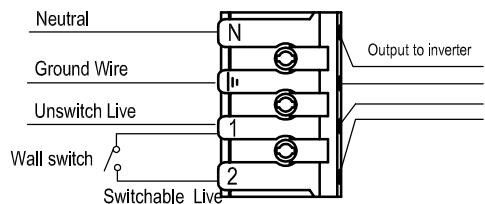

Fig 4
6. Make correct wiring connector(see Fig 4).
Photosensor facility can change to Wall switch control unit, remove jumper calbe, connect external wall switch device between terminal 1 and 2 (see Fig 4).